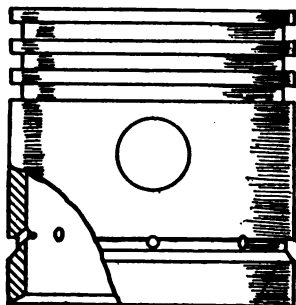

Fig. 9. Method of Grooving and Drilling Piston to Overcome Excessive Lubrication and Smoking
**Grooving Pistons.** Another method of curing the excessive lubrication to which the older cars—particularly those with splash lubrication—are subject, is to turn a deep groove in the bottom of the piston, about like a piston ring groove but with the lower edge beveled off. When this is done, much as shown in Fig. 9, a series of small holes—made with about a No. 30 drill—are put in at the angle of the bevel; 6 or 8 holes, equally distributed around the circumference, are probably enough. The sharp upper edge acts as a wiper and removes the oil from the cylinder walls into the groove, whence it passes through the holes to the piston interior, and there drops back into the crankcase. No ring is placed in the slot as it would prevent the free passage of the oil. This device stops the smoking immediately.